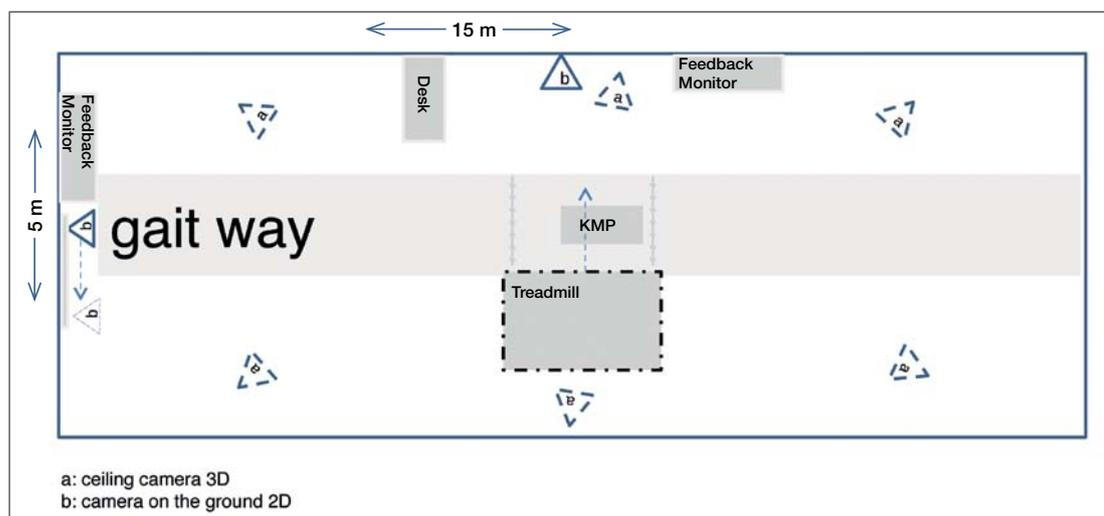

Figure 8: Example of a laboratory plan
**Figure 8** shows an example layout of a motion analysis laboratory. This includes a running track with integrated force plate (KMP), ceiling cameras which can be used flexibly for 3D analyses and ground cameras for 2D analyses. All the cameras can be mounted flexibly or are for mobile use. The laboratory should be large enough to include a running track for gait analysis. For running analysis even more is needed. In addition, there are two large feedback monitors to give patients direct biofeedback, thus providing an important therapeutic stimulus. Live biofeedback can be, for example, kinematic biofeedback with Aktisys, kinetic feedback using a live force vector or feedback about muscular activity from